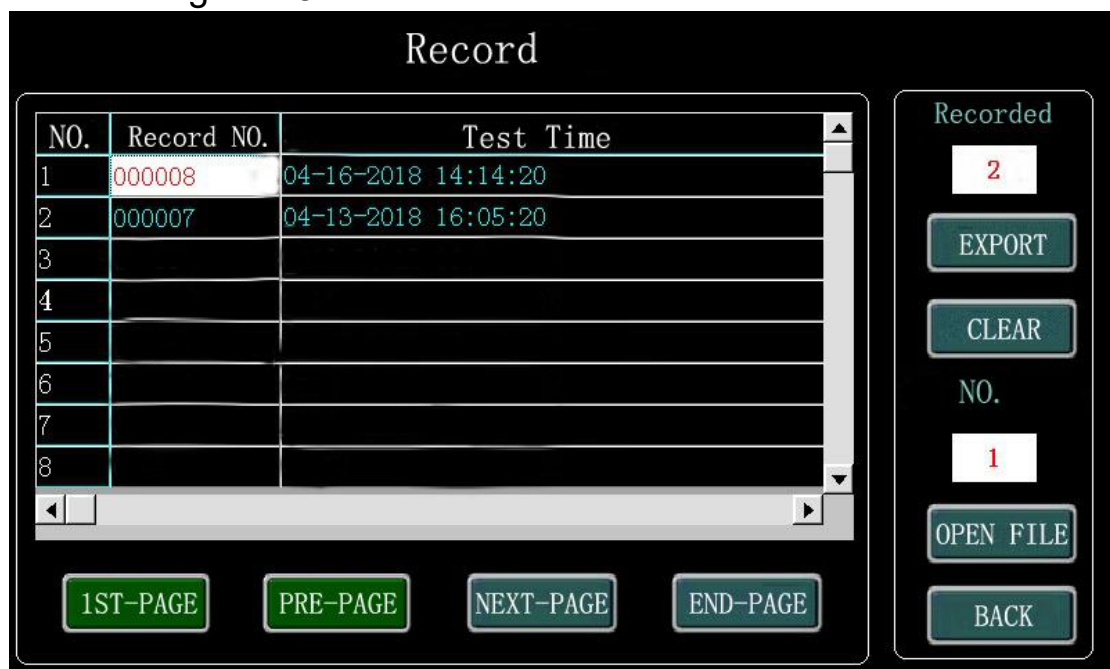

Figure 18
2.2.8 Data Query : After reducing the voltage, return to the main interface and click "Data Query"; the display interface is as shown in Figure 18.